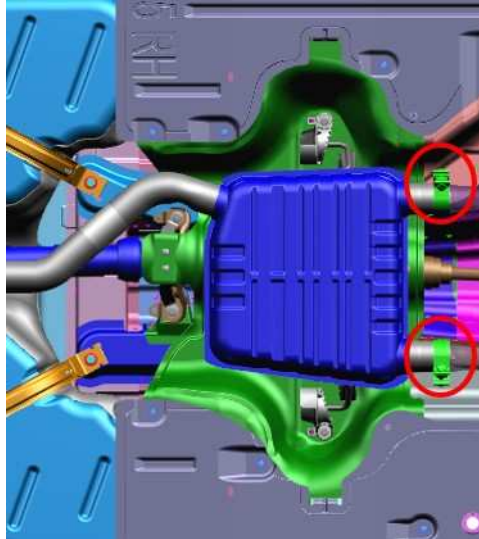

Fig. 14
2. Loosen the mid muffler Torca clamps (Fig. 14) .
15. Secure to the mid muffler Torca clamps (Fig. 14) . Tighten clamps to 55 N·m (486 in. lbs.).